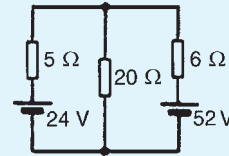

Figure 13.28
- 4. Use the superposition theorem to determine the current in each branch of the arrangement shown in Fig. 13.28.